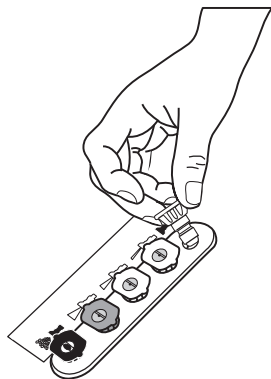

Figure 3-1
1. Remove the colored quick-connect nozzles from the plastic bag and insert them into correct grommet on the nozzle holder. Nozzles are color coded to match colored nozzles on label. See Figure 3-1.